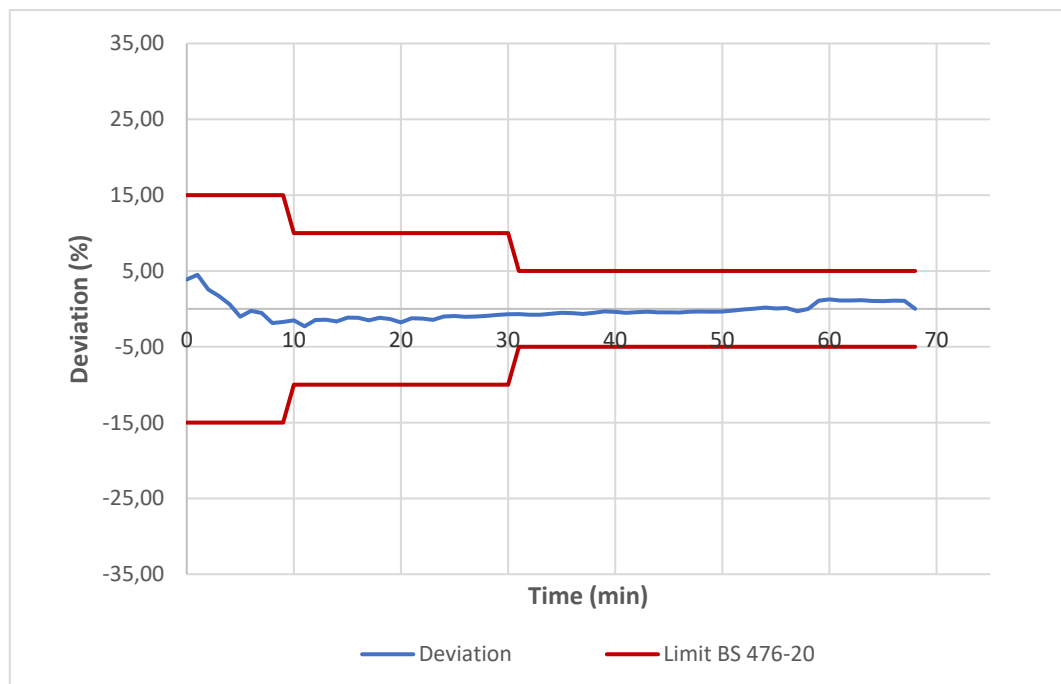

FIGURE 4
- 6.2 Figure 4 shows the deviation in percentage between the area under the standard curve and the area under the curve pertaining to this test, comparing this difference with the percentage tolerated by the Standard BS 476-20:1987.